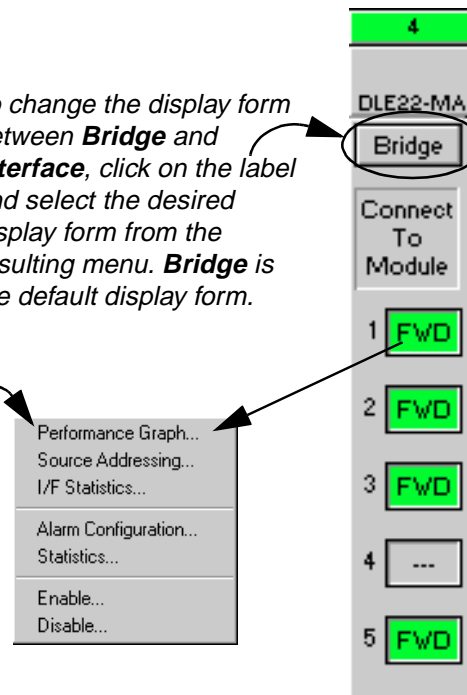

Figure 2-5. The MultiSwitch 700 Module Backplane Device View
The Chassis Backplane View, Figure 2-5, indicates the operational status of the five point-to-point backplane connections between the monitored MultiSwitch 700 module and other modules in the chassis slots. It also lets you enable or disable the backplane connections to other modules in the chassis.
2. Select **BackPlane Config**. The Chassis Backplane View, Figure 2-5, opens.